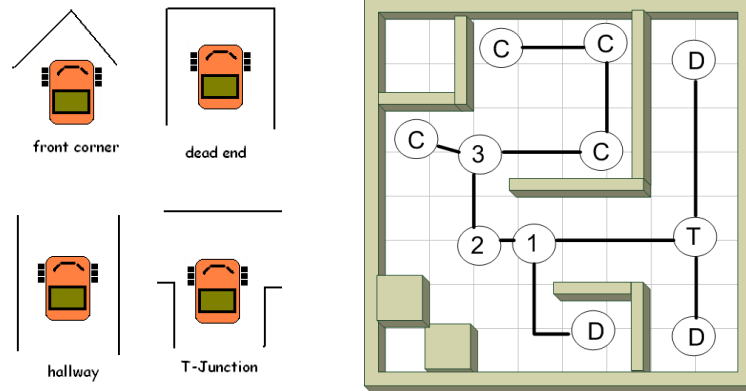

Figure 8: Feature Extraction (Map Coding)
Localization is the process a robot uses to determine its location in a world given an a priori map and sensor readings. A localization algorithm should process the map to identify key features such as the gateways or distinctive places [corners (C), hallways (H), dead-ends (D), t-junctions (T)]. Although it is not a gateway, a series of 10's or 5's or neighboring 1's and 4's or 8's and 2's indicates a hallway (H) in the world. The numbers (1, 2, 3) indicate a gateway where the robot can make a navigation decision. The distinctive features or gateways are the nodes in the world and the hallways can be used with a local control strategy such as follow center or follow wall to move between nodes. An example of coding a map for topological path following is shown in Figure 8.